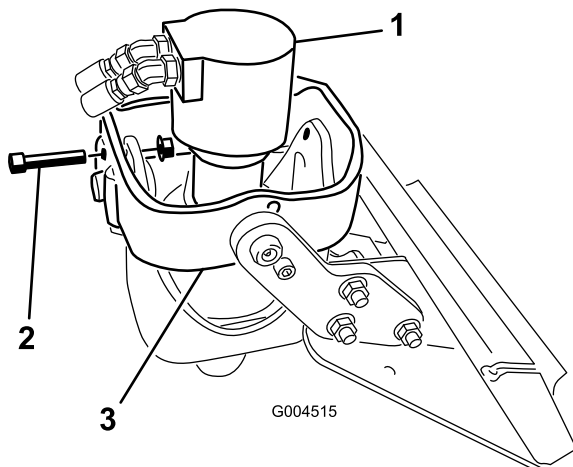

Figure 4
1. If you are installing an auger on model 22806 drive head, position the drive head vertically, slide a bolt (1/2 x 2-1/2 inches) into the holes in the front cradle arms, and secure it lightly with a flange nut (1/2 inch) (Figure 4).